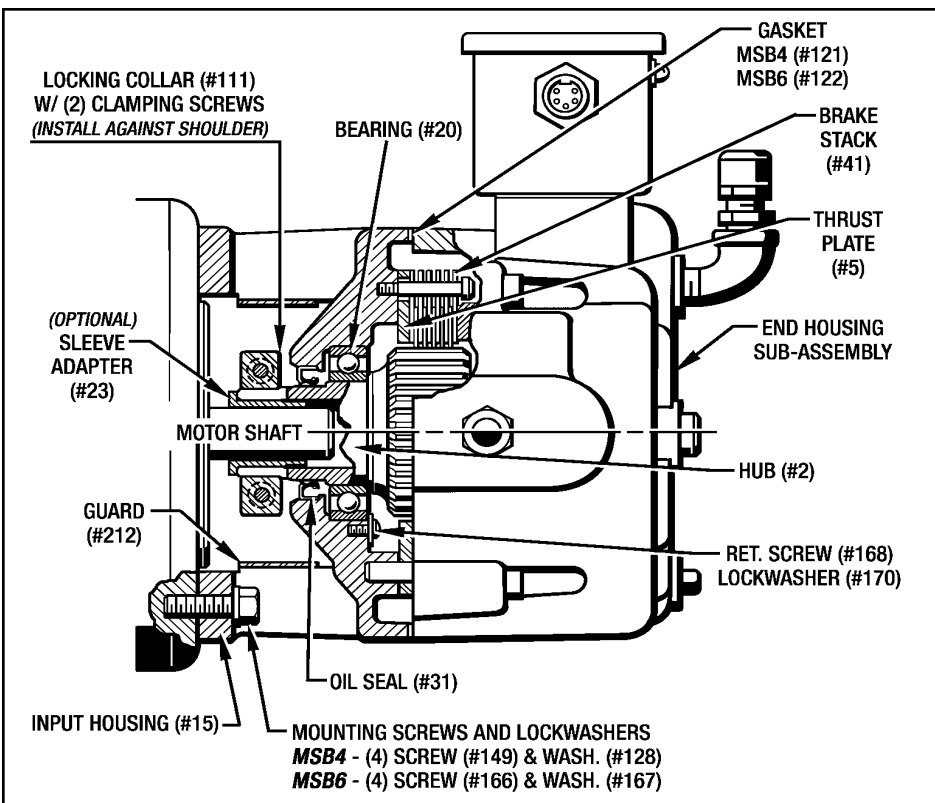

Figure 7.9 - Installing MSB4 and MSB6 Back On Motor
7-11 REPLACING OIL SEAL AND BEARING FOR MSB4 AND MSB6 (See Figures 7.9, 8.3 and 8.4)
11. Push the Locking Collar (#111) on to the Hub (#2) up against the shoulder as shown in *Figure 7.9* and **just finger tighten** the (2) Screws at this time.